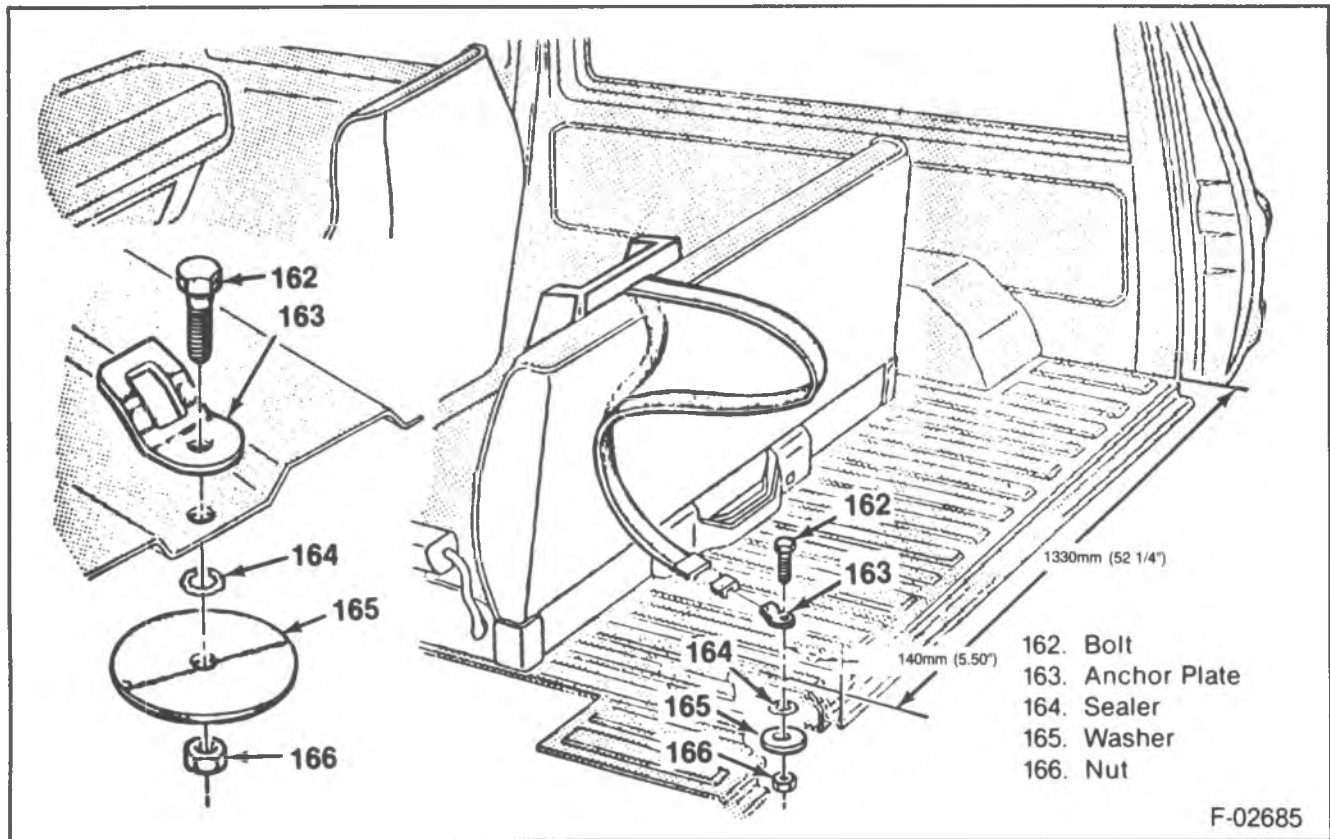

Figure 30 — Utility Vehicle Second Seat Top Strap Belt Components
1. Determine the location for the anchor by measuring 140 mm (5 1/2-inches) forward from the rear edge of the floor pan (figure 30). Make this measurement in the center of one of the depressed floor pan ribs. Next, measure 1330 mm (52.25-inches) inboard of the right quarter inner panel. Mark the position where these measurements meet.